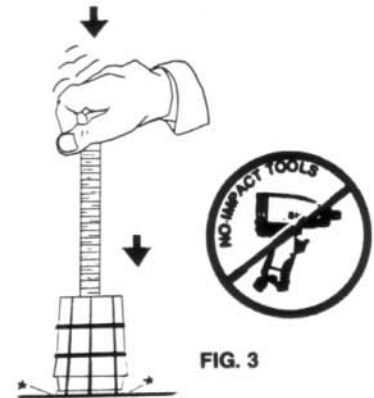

FIG. 3
2. To have the **COLLET PULLER ASSEMBLY** in proper configuration for use: Push down on **JACK SCREW** to open the **COLLET PULLER SEGMENTS**. (Fig. 3)
3. Open the COLLET PULLER SEGMENTS for easy installation as shown in (Figure 3 on Page 2).